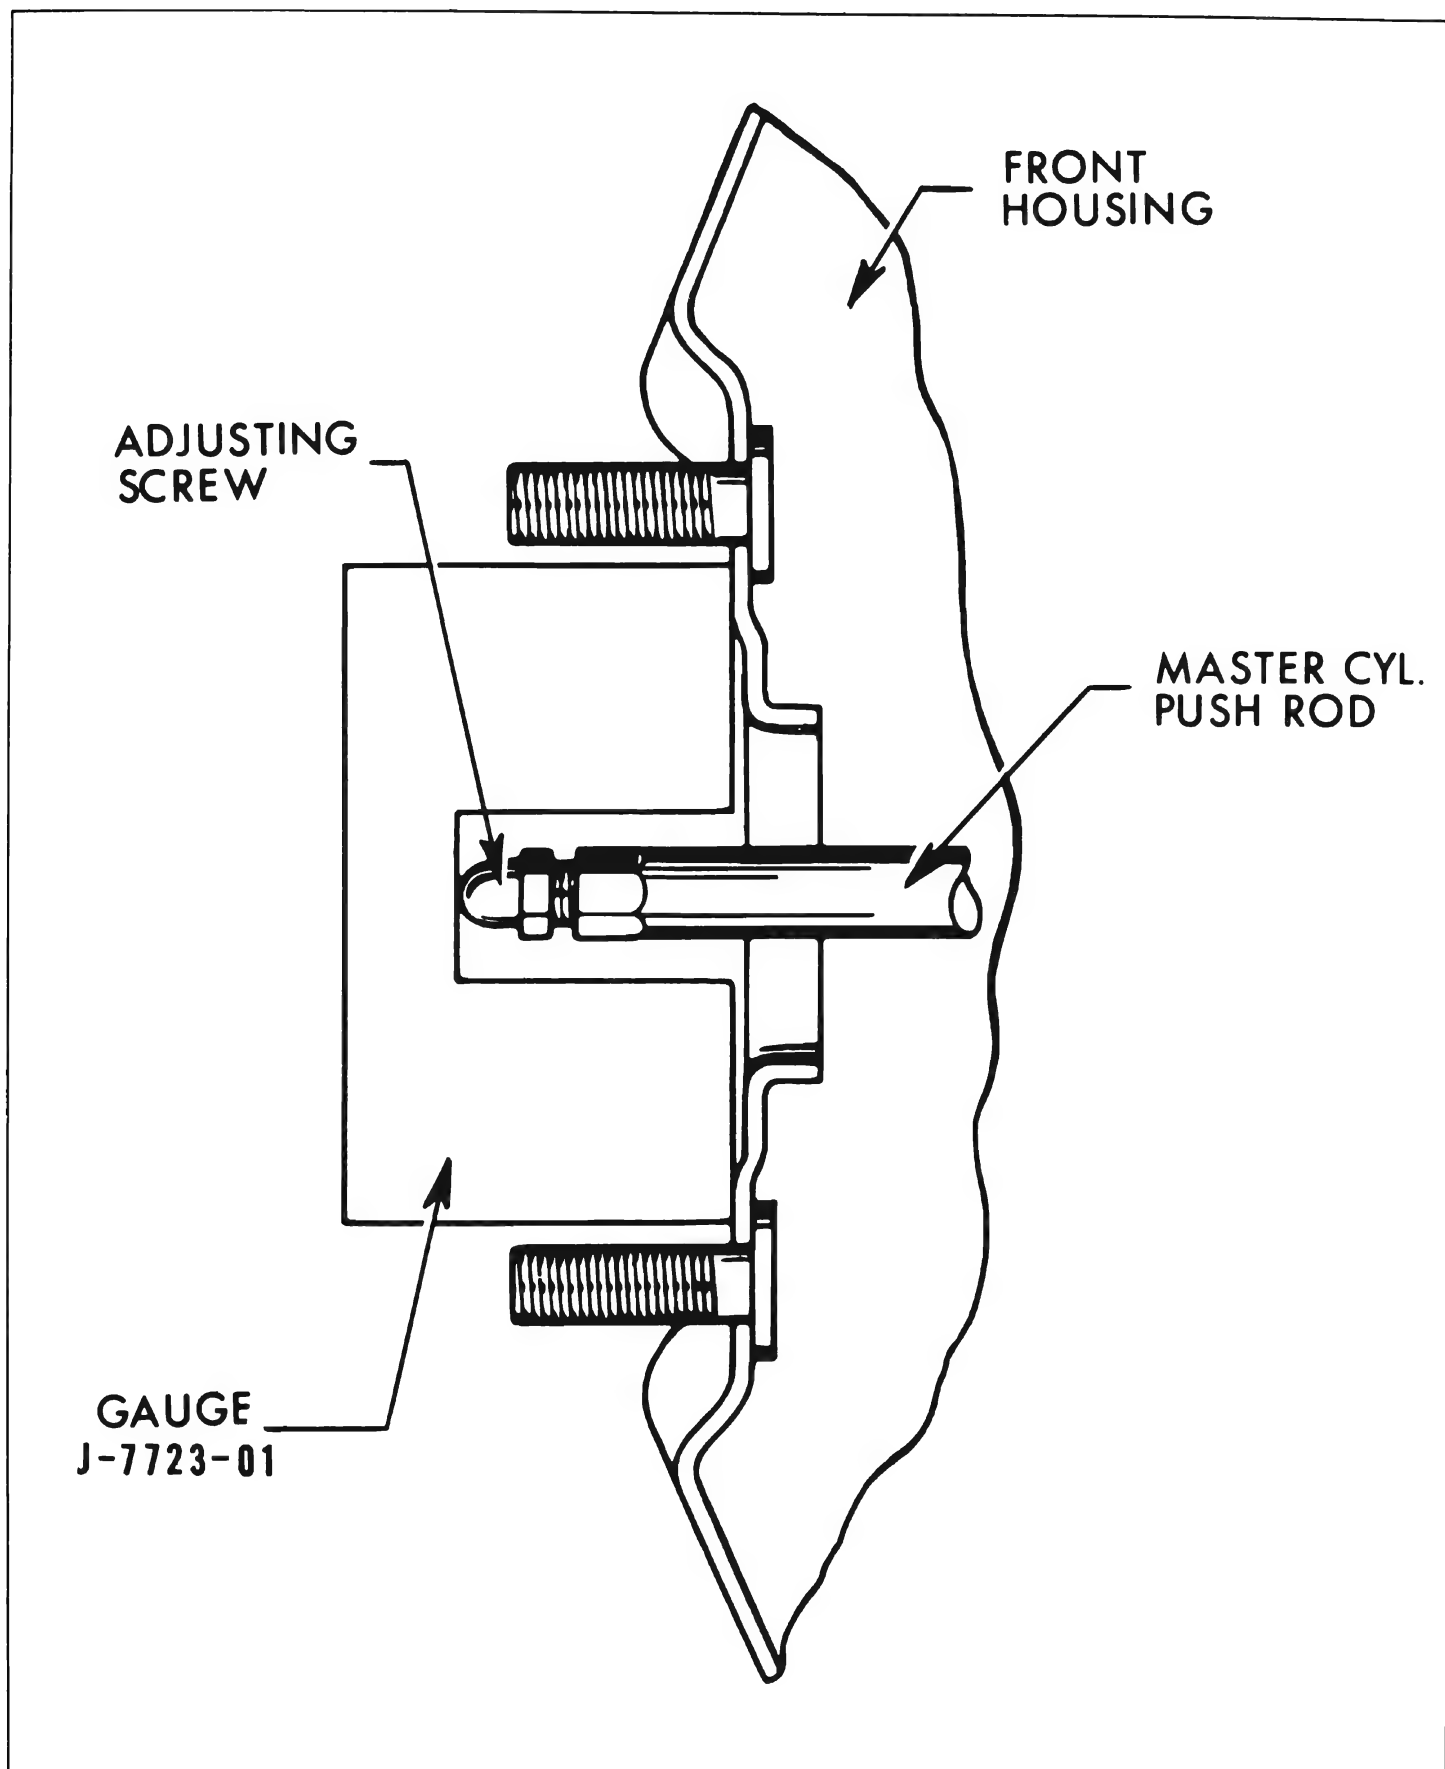

Figure 9-28—Gauging Master Cylinder Push Rod
2. Place Gauge J-7723-01 so that it stands perpendicular to front housing next to two studs, and bridges over end of master cylinder push rod. Push rod should be flush with gauge. See Figure 9-28.